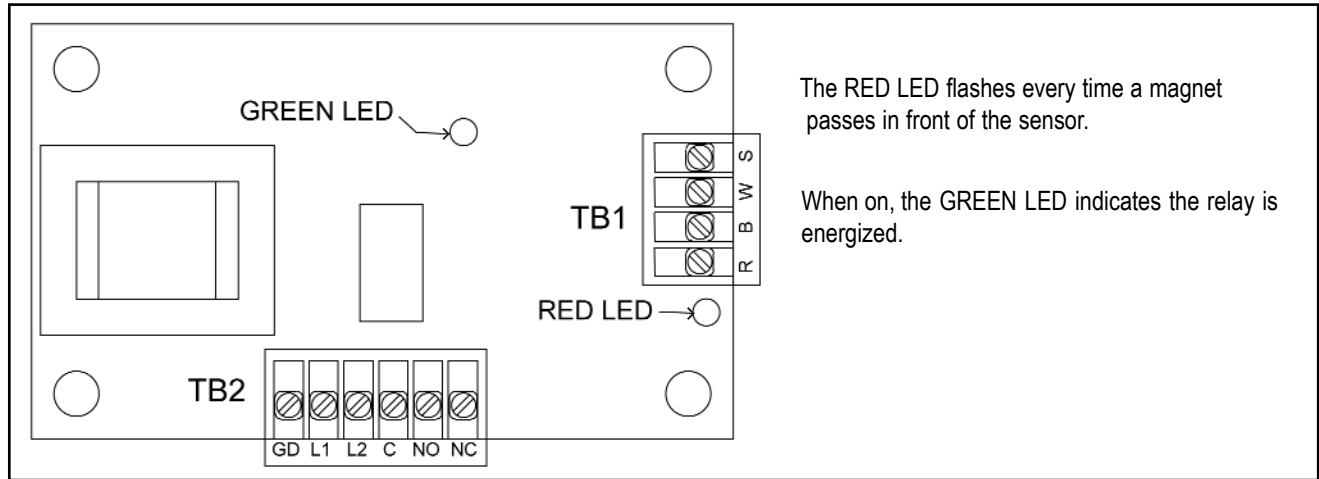

Figure 8
**6.4** The RED LED should be flashing or appear "on" (steady) if the shaft is turning fast. This indicates the speed switch sensor is properly aligned with the magnetic target. (see figure 8, page 8)
**6.5** The GREEN LED should be on, indicating the monitored shaft is rotating. The switch relay is energized when the GREEN LED is on. The GREEN LED shuts off approximately 3.8 seconds after the monitored shaft stops turning. (see figure 8, page 8)